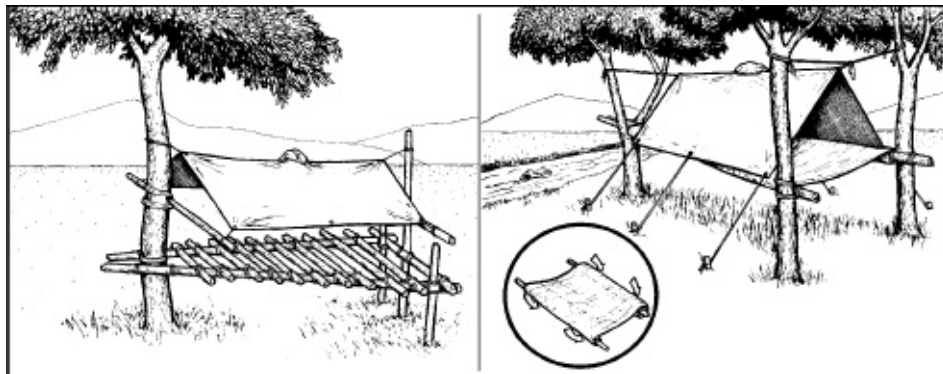

Figure 6-9. Elevated platform shelter
- (5) Elevated platform shelter (**Figure 6-9**). Tropical/wet climates require enclosed, elevated shelter for protection from dampness and insects.